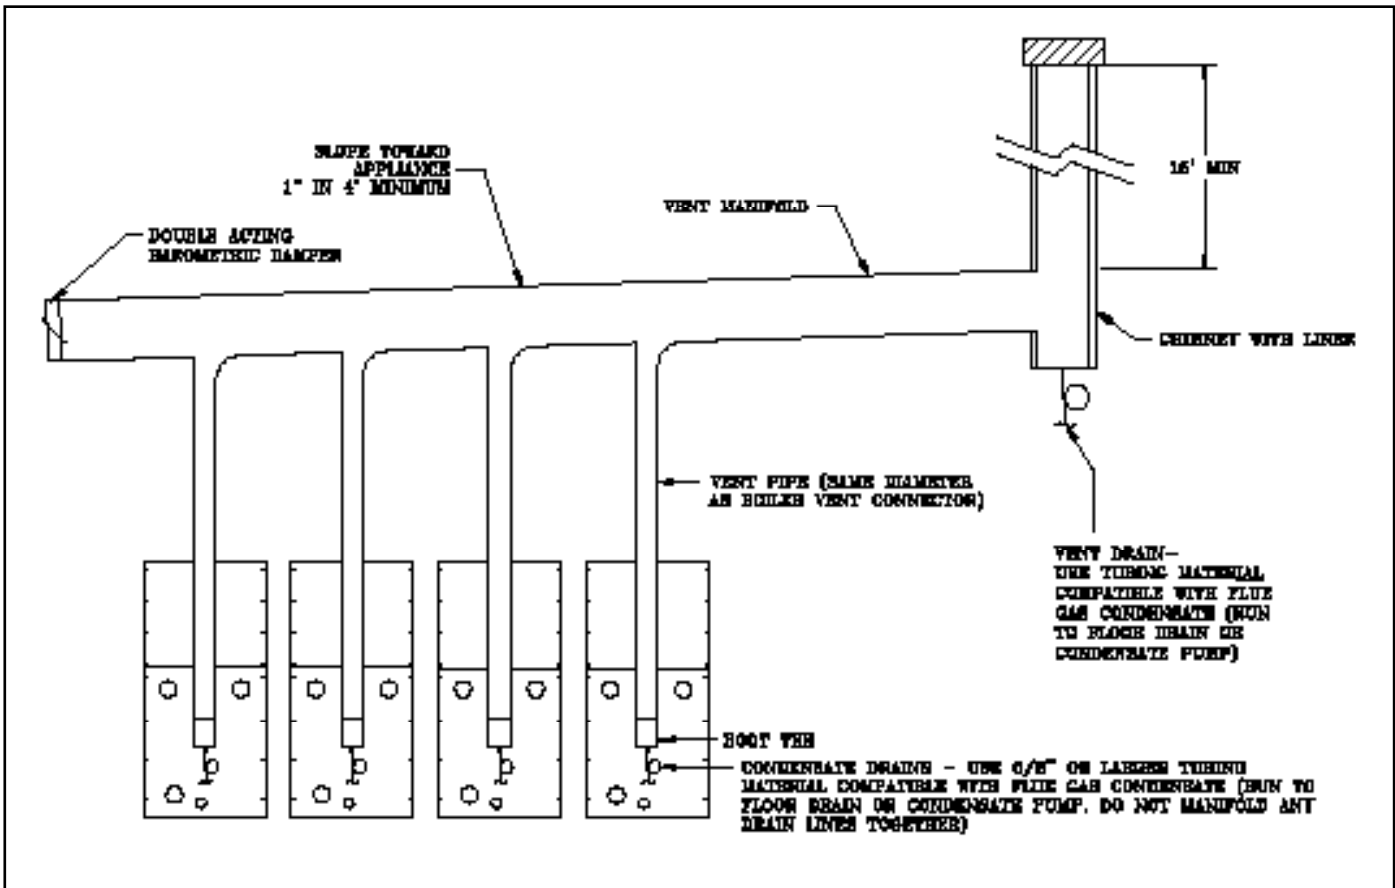

Figure 10: Modular System: Conventional Venting (Negative Pressure)
- Refer to Figure 10 for an example of a typical conventional venting arrangement for modular boilers.
- Install a double acting barometric damper with integral flue spillage interlock (as shown in Figure 10).
- vi. Install a condensate drain to collect any condensate that may form in the lined chimney or vertical common vent (refer to figure 10).